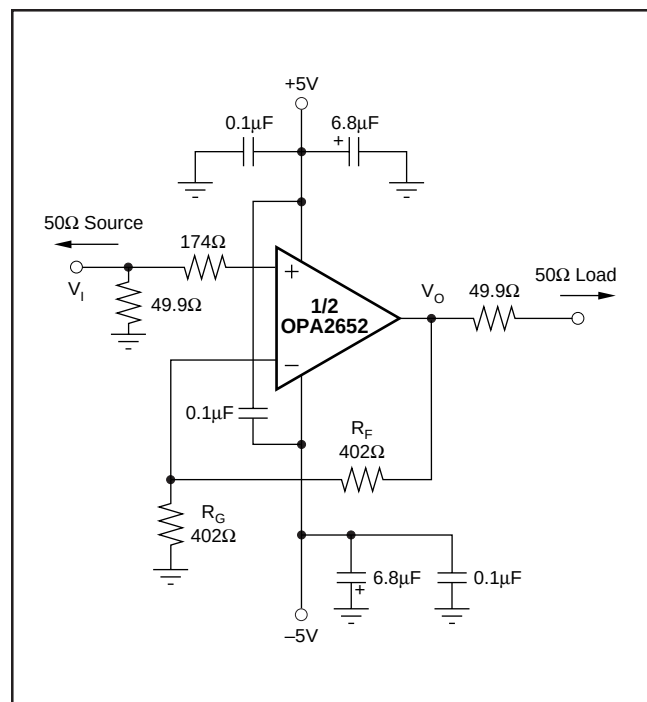
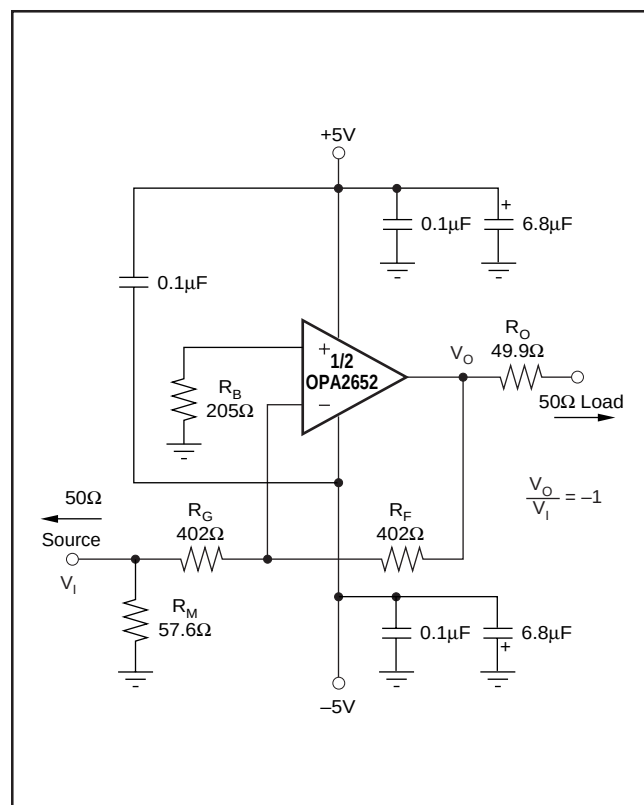

FIGURE 1. DC-Coupled, $G = +2$, Bipolar Supply, Specification and Test Circuit.
FIGURE 2. DC-Coupled, $G = -1$, Bipolar Supply, Specification and Test Circuit.
At $T_A = +25^\circ C$, $G = +2$, $R_F = 402\Omega$, and $R_L = 100\Omega$, unless otherwise noted. See Figures 1 and 2.
At $T_A = +25^\circ\text{C}$, $G = +2$, $R_F = 402\Omega$, and $R_L = 100\Omega$, unless otherwise noted. See Figures 1 and 2.
Figure 1 shows the DC-coupled, gain of +2, dual power supply circuit configuration used as the basis of the $\pm 5\text{V}$ Specifications and Typical Performance Curves. This is for one channel. The other channel is connected similarly. For test purposes, the input impedance is set to 50Ω with a resistor to ground and the output impedance is set to 50Ω with a series output resistor. Voltage swings reported in the specifications are taken directly at the input and output pins, while output powers (dBm) are at the matched 50Ω load. For the circuit of Figure 1, the total effective load will be $100\Omega \parallel 804\Omega$. Two optional components are included in Figure 1.
Figure 2 shows the DC-coupled gain of -1 , bipolar supply circuit configuration which is the basis of the Specifications and Typical Performance Curves at $G = -1$. The input impedance matching resistor (57.6Ω) used for testing gives a 50Ω input load. A resistor (205Ω) connects the non-inverting input to ground. This provides the DC source resistance matching to cancel outputs errors due to input bias current.
A good rule of thumb is to target the parallel combination of R_F and R_G (Figure 1) to be less than approximately 300Ω . The combined impedance $R_F \parallel R_G$ interacts with the inverting input capacitance, placing an additional pole in the feedback network, and thus a zero in the forward response. Assuming a $2pF$ total parasitic on the inverting node, holding $R_F \parallel R_G < 300\Omega$ will keep this pole above $250MHz$. By itself, this constraint implies that the feedback resistor R_F can increase to several $k\Omega$ at high gains. This is acceptable as long as the pole formed by R_F and any parasitic capacitance appearing in parallel is kept out of the frequency range of interest.
Voltage feedback op amps exhibit decreasing closed-loop bandwidth as the signal gain is increased. In theory, this relationship is described by the Gain Bandwidth Product (GBP) shown in the specifications. Ideally, dividing GBP by the non-inverting signal gain (also called the Noise Gain, or NG) will predict the closed-loop bandwidth. In practice, this only holds true when the phase margin approaches 90° , as it does in high gain configurations. At low gains (increased feedback factor), most amplifiers will exhibit a wider bandwidth and lower phase margin. The OPA2652 is compensated to give a flat response in a non-inverting gain of 1 (Figure 1). This results in a typical gain of +1 bandwidth of 700MHz, far exceeding that predicted by dividing the 200MHz GBP by $NG = 1$. Increasing the gain will cause the phase margin to approach 90° and the bandwidth to more closely approach the predicted value of (GBP/NG) . At a gain of +5, the 45MHz bandwidth shown in the Typical Specifications is close to that predicted using this simple formula.
Since the OPA2652 is a general purpose, wideband voltage feedback op amp, all of the familiar op amp application circuits are available to the designer. Inverting operation is one of the more common requirements and offers several performance benefits. Figure 2 shows a typical inverting configuration.
In the inverting configuration, three key design consideration must be noted. The first is that the gain resistor (R_G) becomes part of the signal channel input impedance. If input impedance matching is desired (which is beneficial whenever the signal is coupled through a cable, twisted pair, long PC board trace or other transmission line conductor), R_G may be set equal to the required termination value and R_F adjusted to give the desired gain. This is the simplest approach and results in optimum bandwidth and noise performance. However, at low inverting gains, the resultant feedback resistor value can present a significant load to the amplifier output. For an inverting gain of -1 , setting R_G to 50Ω for input matching eliminates the need for R_M but requires a 50Ω feedback resistor. This has the interesting advantage that the noise gain becomes equal to 2 for a 50Ω source impedance—the same as the non-inverting circuits considered above. However, the amplifier output will now see the 50Ω feedback resistor in parallel with the external load. In general, the feedback resistor should be limited to the 200Ω to $1.5k\Omega$ range. In this case, it is preferable to increase both the R_F and R_G values as shown in Figure 2, and then achieve the input matching impedance with a third resistor (R_M) to ground. The total input impedance becomes the parallel combination of R_G and R_M .
The second major consideration, touched on in the previous paragraph, is that the signal source impedance becomes part of the noise gain equation and influences the bandwidth. For the example in Figure 2, the R_M value combines in parallel with the external 50Ω source impedance, yielding an effective
driving impedance of $50\Omega \parallel 57.6\Omega = 26.8\Omega$. This impedance is added in series with R_G for calculating the noise gain (NG). The resultant NG is 1.94 for Figure 2, (an ideal 0Ω source would cause $NG = 2.00$).
The third important consideration in inverting amplifier design is setting the bias current cancellation resistor on the non-inverting input (R_B). If this resistor is set equal to the total DC resistance looking out of the inverting node, the output DC error, due to the input bias currents, will be reduced to (Input Offset Current) $\cdot R_F$. If the 50Ω source impedance is DC-coupled in Figure 2, the total resistance to ground on the inverting input will be 429Ω . Combining this in parallel with the feedback resistor gives 208Ω , which is close to the $R_B = 205\Omega$ used in Figure 2. To reduce the additional high frequency noise introduced by this resistor, it is sometimes bypassed with a capacitor. As long as $R_B < 300\Omega$, the capacitor is not required since its total noise contribution will be much less than that of the op amp's input noise voltage.
The OPA2652 provides good distortion performance into a 100 Ω load on $\pm 5V$ supplies. Increasing the load impedance improves distortion directly. Remember that the total load includes the feedback network; in the non-inverting configuration (Figure 1) this is sum of $R_F + R_G$, while in the inverting configuration, it is just R_F . Also, providing an additional supply decoupling capacitor (0.1 μF) between the supply pins (for bipolar operation) improves the 2nd-order distortion slightly (3dB to 6dB).
Evaluating these two equations for the OPA2652 circuit and component values shown in Figure 1 will give a total output spot noise voltage of $17nV/\sqrt{Hz}$ and a total equivalent input spot noise voltage of $8.4nV/\sqrt{Hz}$. This is including the noise added by the bias current cancellation resistor (205 Ω) on the non-inverting input. This total input-referred spot noise voltage is only slightly higher than the $8nV/\sqrt{Hz}$ specification for the op amp voltage noise alone. This will be the case as long as the impedances appearing at each op amp input are limited to the previously recommended maximum value of 300 Ω . Keeping both $(R_F \parallel R_G)$ and the non-inverting input source impedance less than 300 Ω will satisfy both noise and frequency response flatness considerations. Since the resistor-induced noise is relatively negligible, additional capacitive decoupling across the bias current cancellation resistor (R_B) for the inverting op amp configuration of Figure 2 is not required.
The balanced input stage of a wideband voltage feedback op amp allows good output DC accuracy in a wide variety of applications. Although the high speed input stage does require relatively high input bias current (typically 4 μA out of each input terminal), the close matching between them may be used to significantly reduce the output DC error caused by this current. This is done by matching the DC source resistances appearing at the two inputs. This reduces the output DC error due to the input bias currents to the offset current times the feedback resistor. Evaluating the configuration of Figure 1, using worst-case +25°C input offset voltage and current specifications, gives a worst-case output offset voltage equal to:
As an example, compute the maximum T_J using an OPA2652E (SOT23-8 package) in the circuit of Figure 1 operating at the maximum specified ambient temperature of +85°C and with both outputs driving 2.5V_{DC} into a grounded 100Ω load.